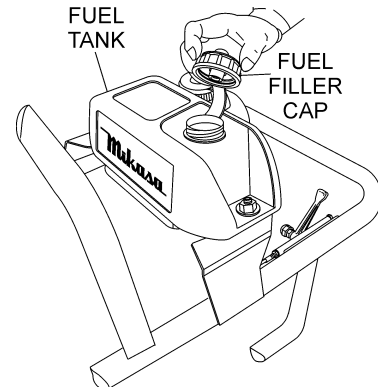

**Figure 3. Grip Handle**
1. When transporting the machine, carry it by the grip handle located on the body (Figure 3).